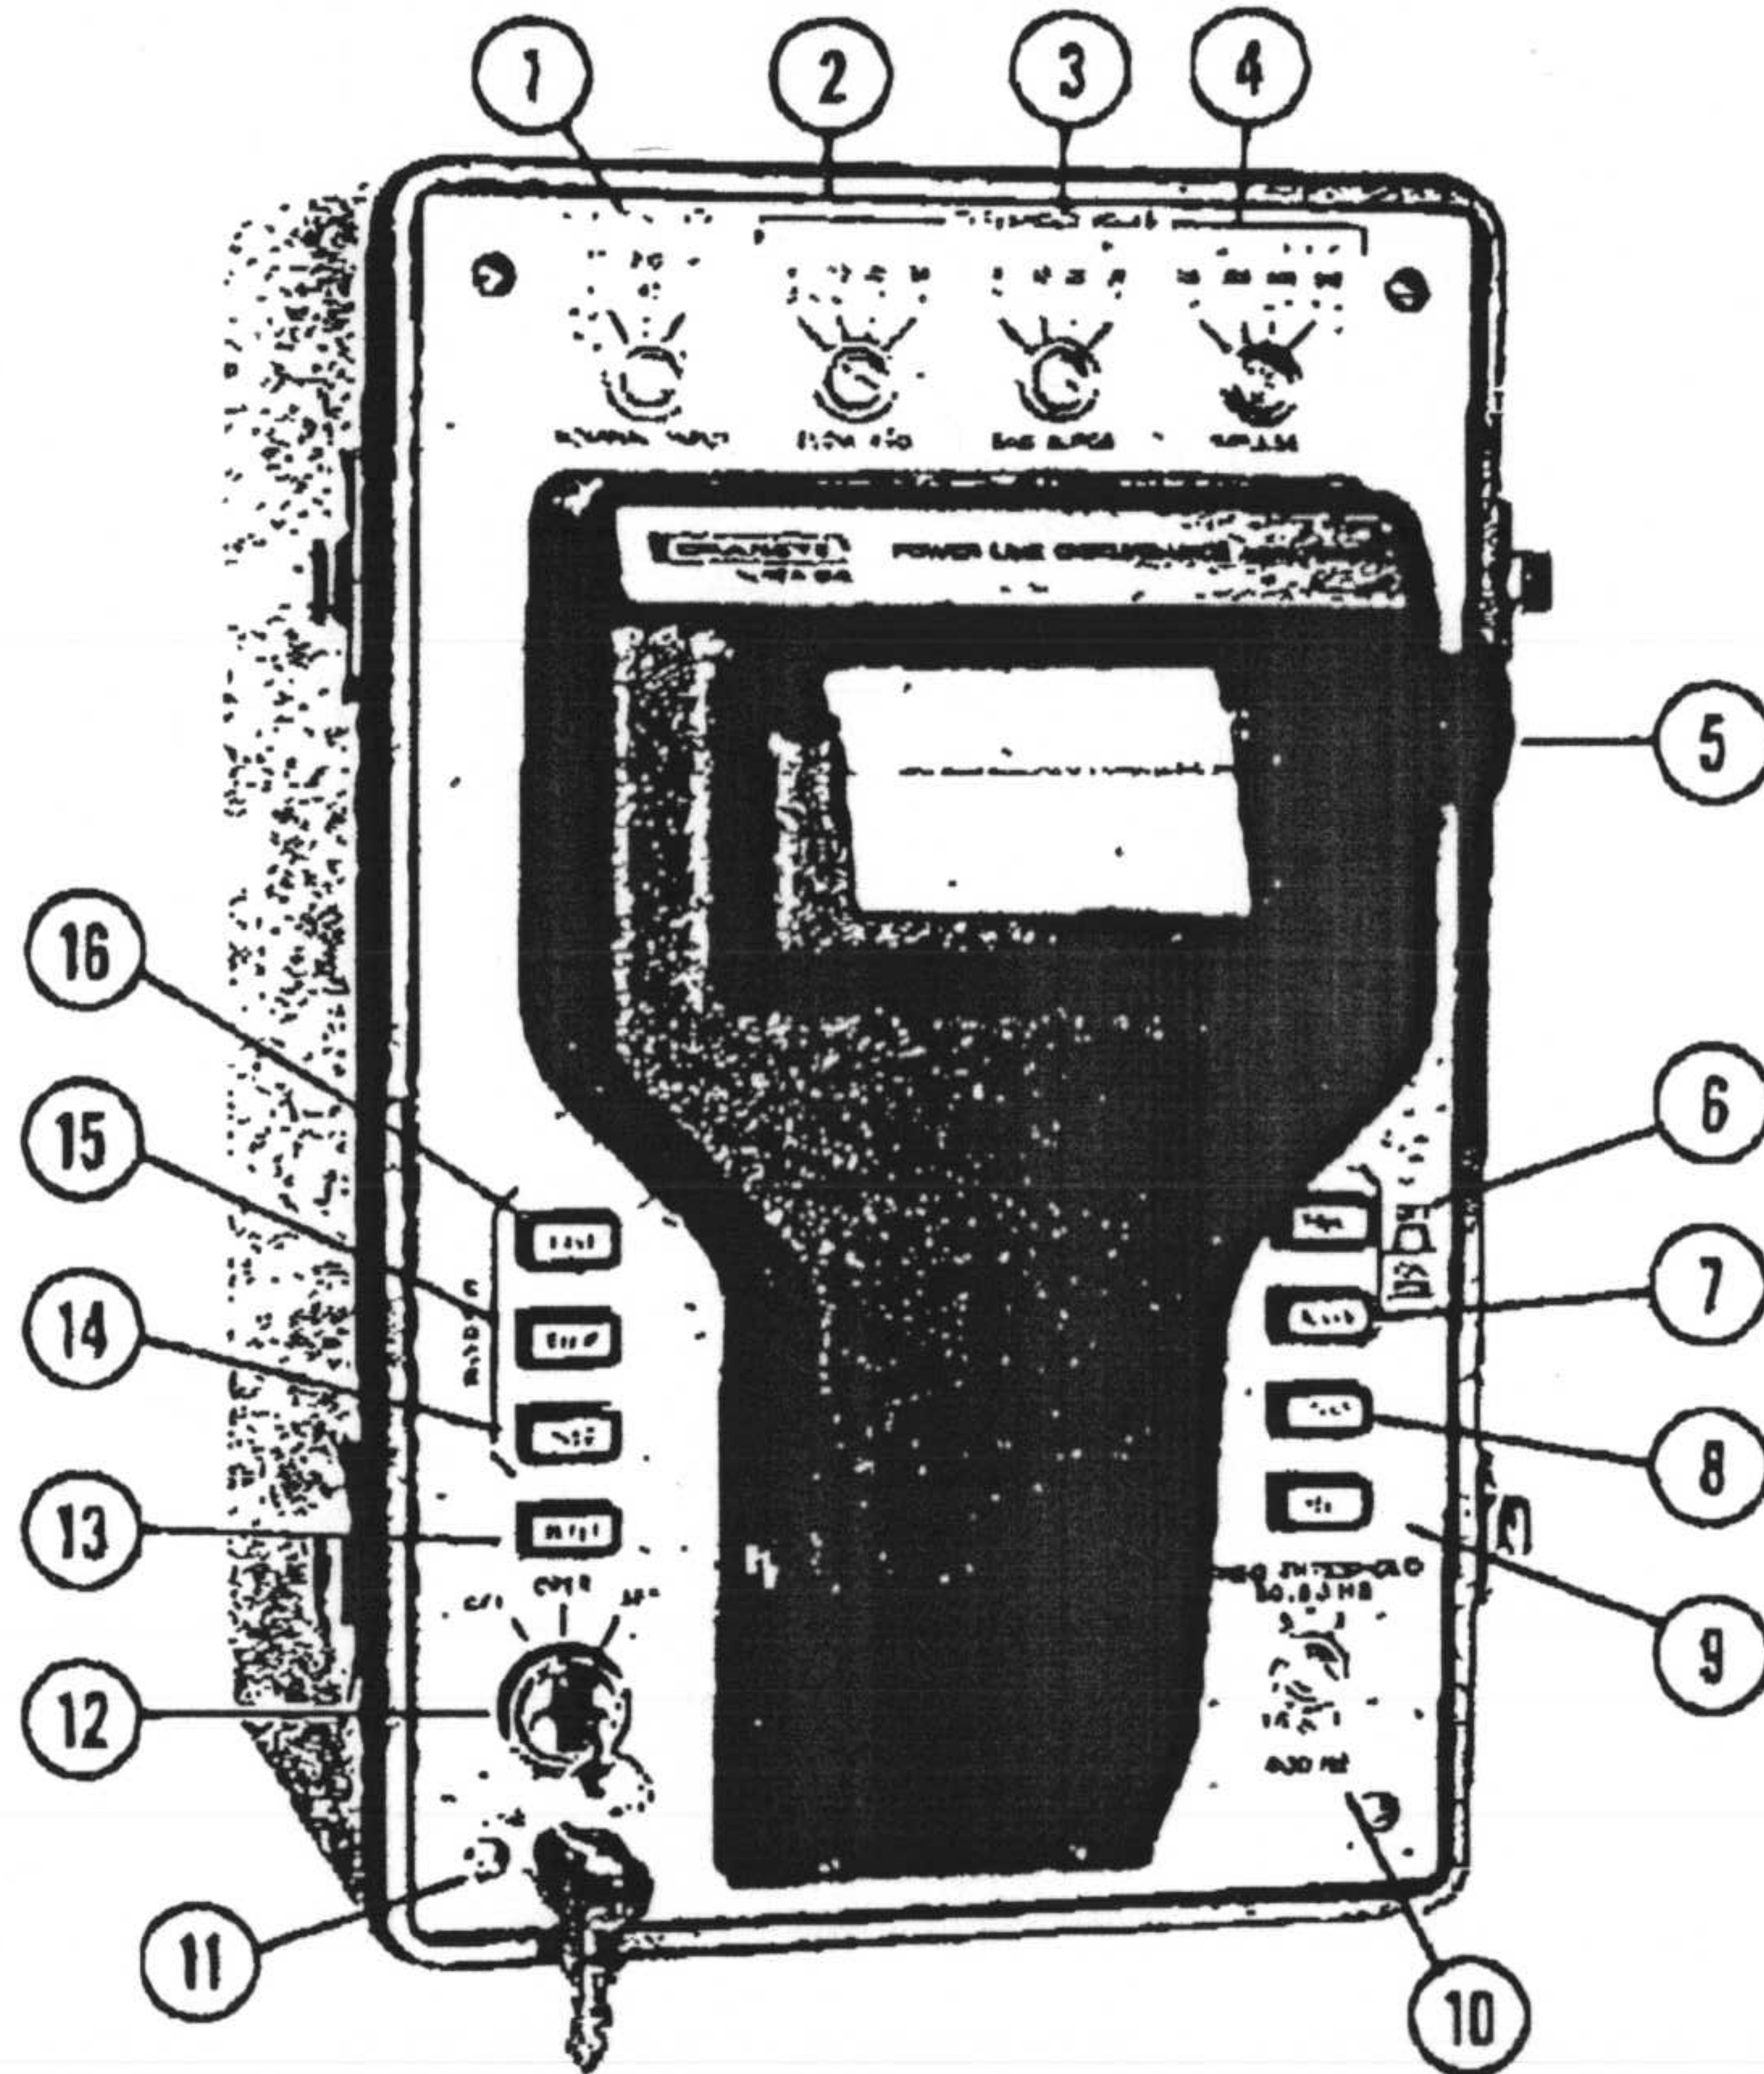

FIGURE 7
h. Raise the cover and guide paper through opening as shown in Figure 7, then lock cover in place.